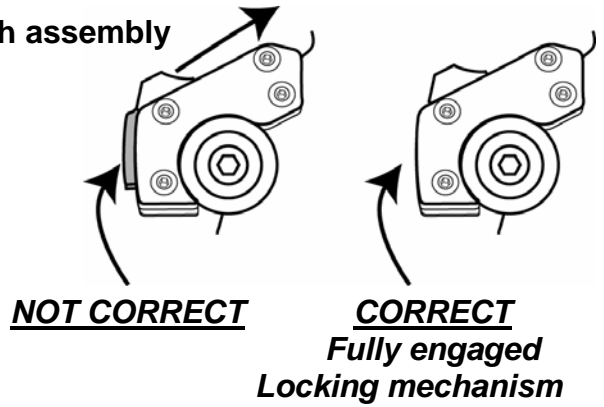

Fig. 3
4. Start with Fork Clamp Bushing adjusted to the rear of the slot (Fig 3) Then adjust as needed and check for clearance. (See warning above.)